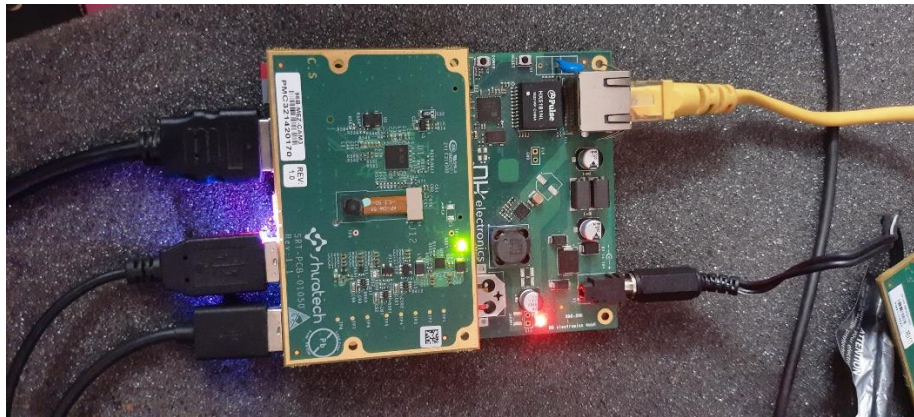

Figure 4: Avenger96 AP1302 setup with ARX3A0 camera sensor
- SRT-Vision96-ARX3A0 mezzanine (AP-vision-ARX3A0) – Refer Figure 4